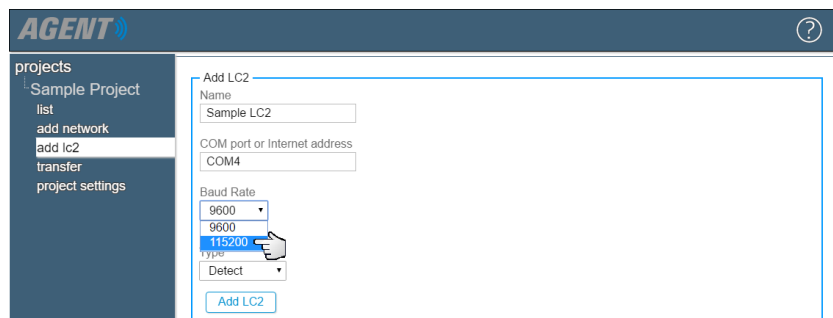

FIGURE 83: Select a Baud Rate
3. For all new LC2 dataloggers, select the 9600 baud rate (*Figure 83*). A baud rate of 9600 is required for single channel LC2 dataloggers running firmware prior to version 5.2.X and for multichannel LC2 dataloggers running firmware prior to version 3.1.X.